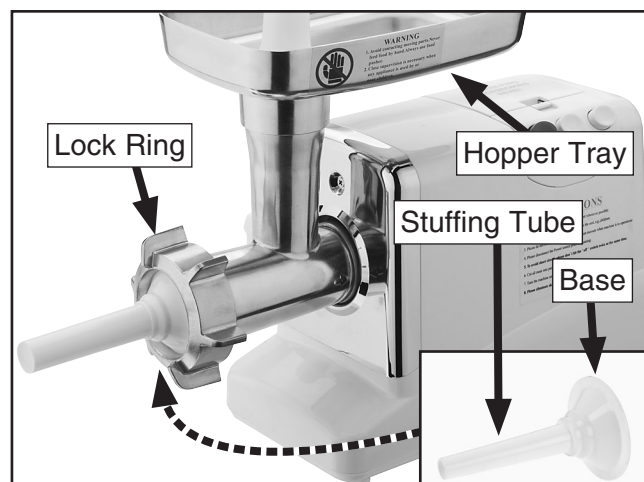

Figure 12. Stuffing tube and base installed.
5. Insert the stuffing tube into the stuffing tube base, place it on the stuffing plate, then secure it with the lock ring, as shown in **Figure 12**.
6. Install the hopper tray (see **Figure 12** on **Page 5**).